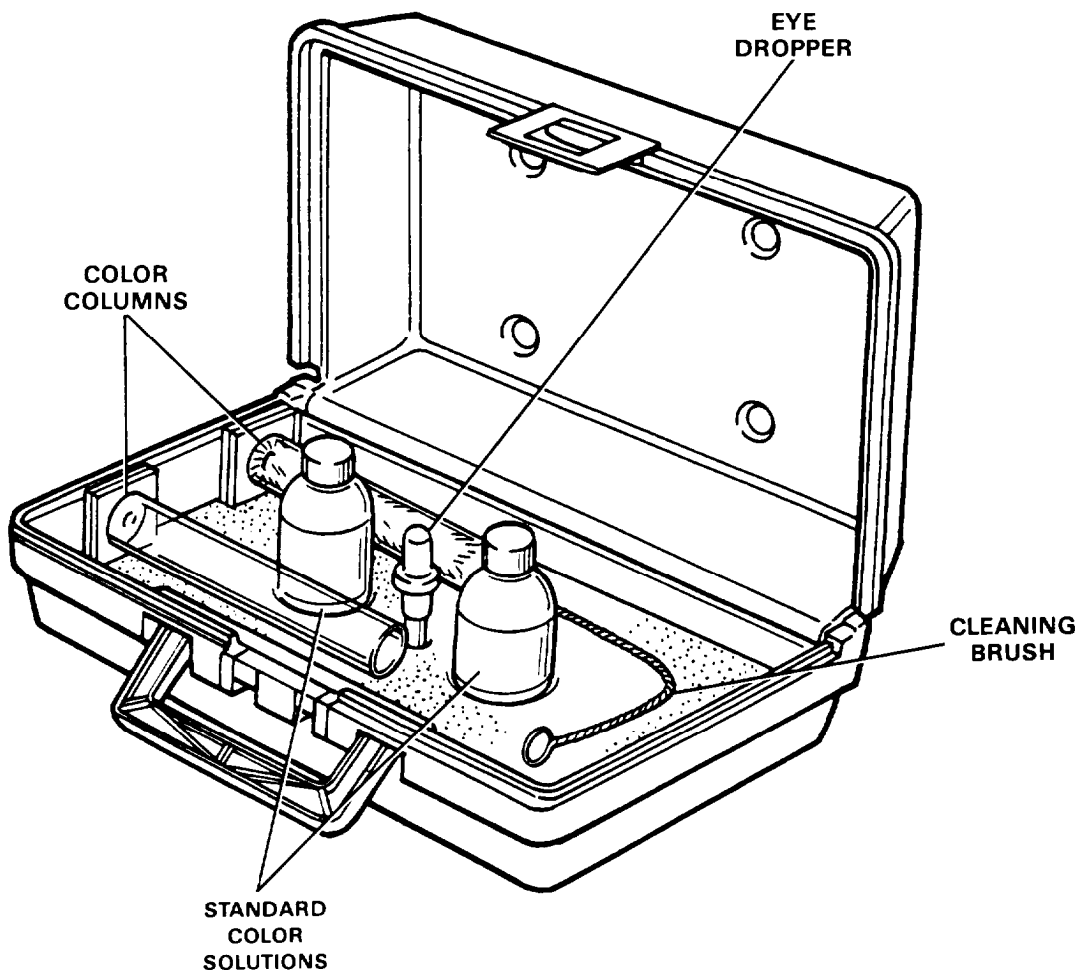

Figure 2-19. Color Test Kit
**2-8. COLOR TEST KIT (Figure 2-19).** This test kit is used to check the color of the raw water at each new operating site when the turbidity is less than 8 NTU, See paragraph 2-15.